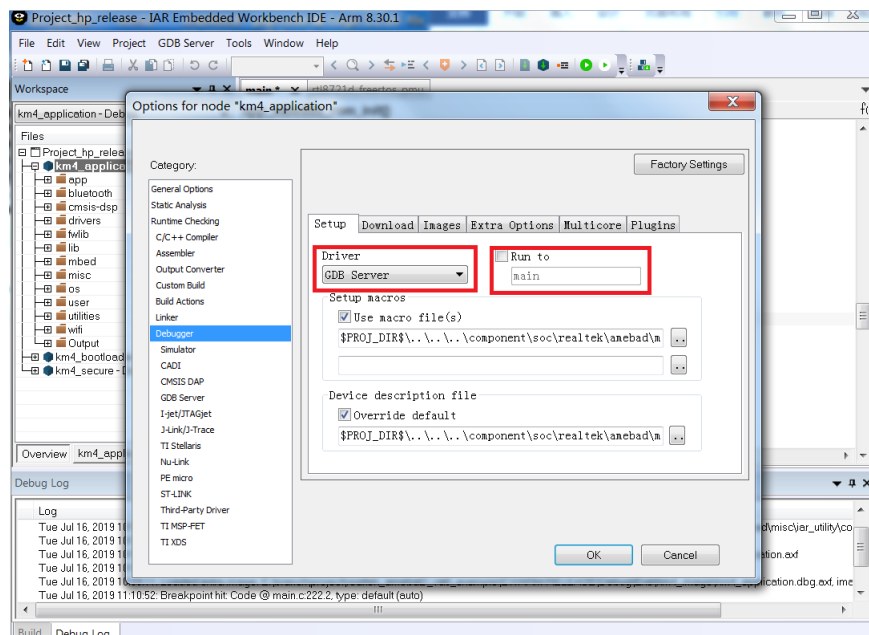

Fig 6-15 RLX Probe setup
- (3) If using RLX Probe, check whether the RLX Probe setting is correct.
- a) Click **Project > Options > Debugger > Setup > Driver**, choose "GDB Server" and don not choose "Run to", as Fig 6-15 shows.